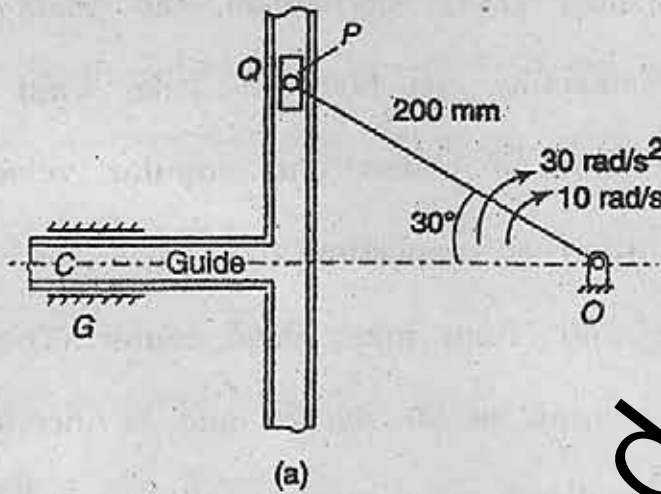

Fig. 4
- (b) Fig. 4 shows a Scotch-Yoke mechanism. At the instant, shown in Fig., the crank OP has an angular velocity of 10 rad/sec. and angular acceleration of 30 rad/sec^2 . Determine the acceleration of slider 'P' in the guide and